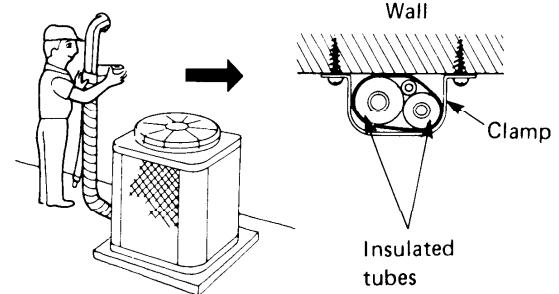

Fig. 30
- b) Wrap the armoring tape from the bottom of the outdoor unit to the top of the tubing, where it enters the wall. As you wrap the tubing cover half of each previous tape turn. Fig. 30